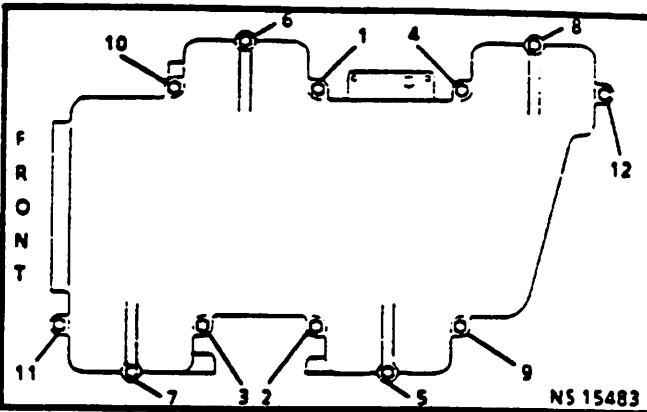

Figure 21 - Bolt Tightening Sequence
- Bolts to 14.0 N·m (124 lb in.) in sequence as shown in Figure 21.